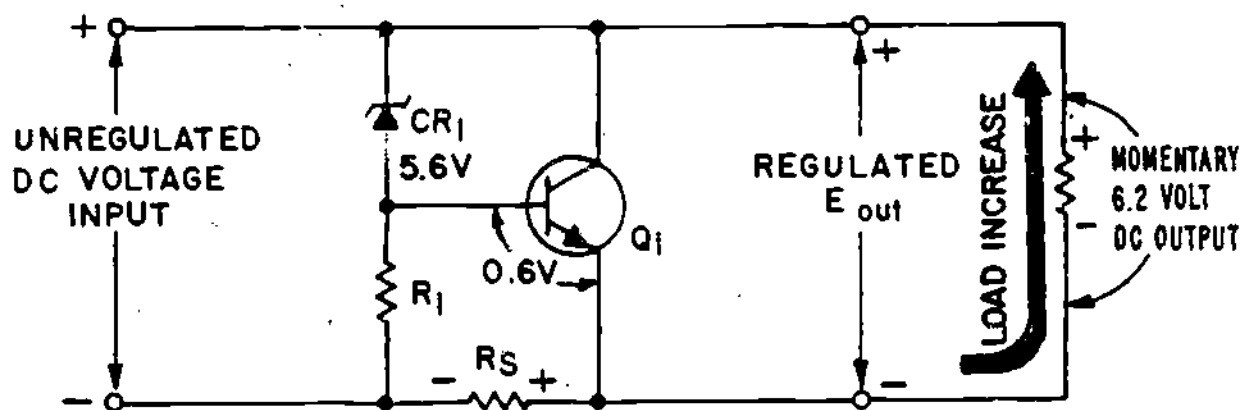

FIGURE 14
22. Study the schematic shown in Figure 14. Although the schematic is identical with other shunt voltage schematics previously illustrated and discussed, the output voltage shown is different. The load current has increased causing a momentary drop in voltage output to 6.2 volts. Recall that the circuit was designed to insure a constant output voltage of 6.3 volts. Since the output voltage is less than required, changes occur in the regulator to restore the output voltage to 6.3 volts.